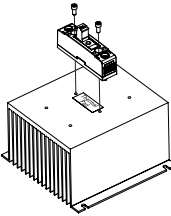

fig.1 SSR mounted on HS053 heat sink
- SSR housing mounting holes have a diameter of 0.341 in (8.66mm). Two screws are needed to mount the SSR onto a heat sink (See fig.1). Mounting screws are sold separately as HK8 and are suitable for all Crydom heat sinks. Otherwise, recommended screw size is 8-32 (socket) using an allen wrench (9/64 in) for the installation. Choose screw length considering mounting surface hole depth and SSR baseplate thickness of 0.125 in (3.2 mm).